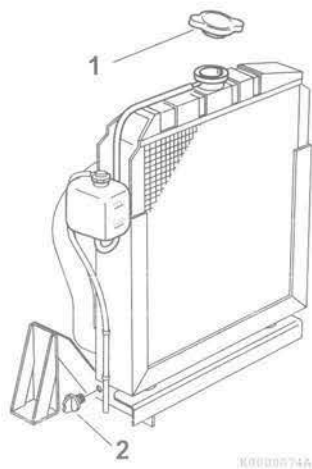

Figure 22
2. Remove the radiator cap (1, **Figure 22**).
3. Remove the drain plug or open the drain valve (2, **Figure 22**) at the bottom of the radiator and drain the engine coolant.